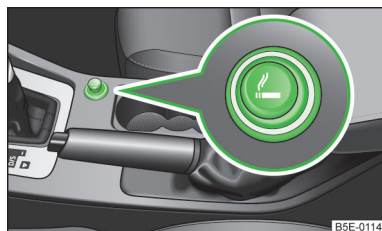

Fig. 63
- Press in the button of the cigarette lighter » Fig. 63.